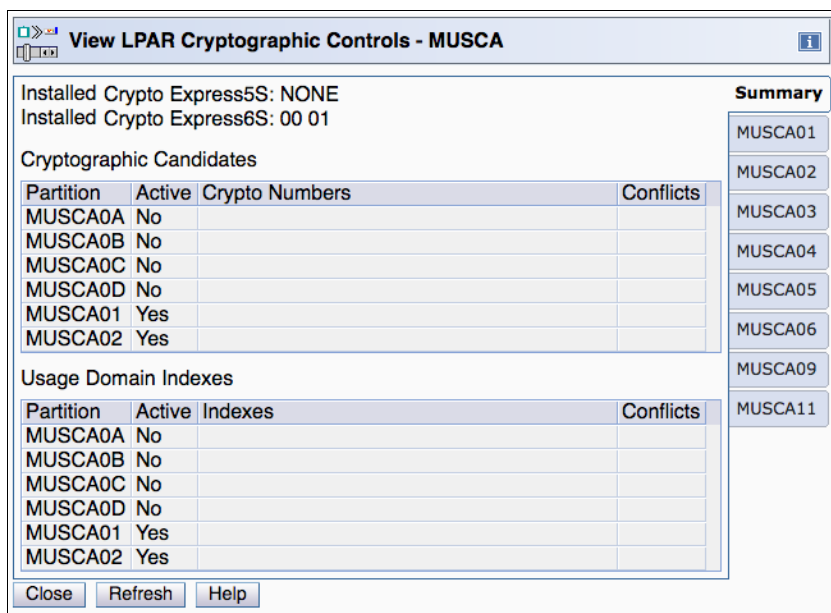

Figure 10-5 View LPAR Cryptographic Controls
In this conflicting case, you must review the cryptographic information for all active logical partitions from the Summary tab of the View LPAR Cryptographic Controls task (see Figure 10-5 on page 225). Resolve the error based on the collected data by assigning a unique combination of PCIe adapter number and usage domain index number.
**Tip:** You can review the PCI Cryptographic candidate lists and usage domain indexes that are assigned for all active logical partition from the Summary tab (see Figure 10-5). The usage domain index, in combination with the cryptographic number that is selected in the candidate list, must be unique across all partitions that are defined to the CPC. Therefore, this new tab is useful when you define or change the usage domain index for a logical partition.